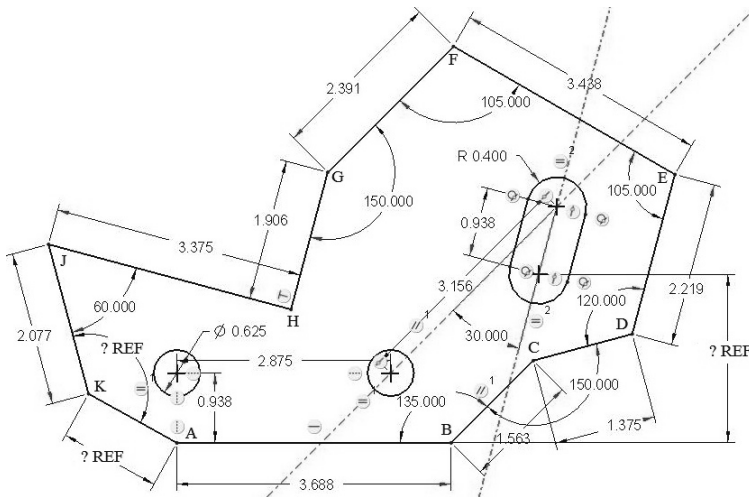

Figure 3-70 Problem 1—Shear Plate
- 3.1 Draw "shear_plate" (Figure 3-70). **Design Intent**—The left hole must be directly above the lower left corner at point A at a height of 15/16 inches. The right hole must be 2.875 inches from the left hole and at the same height. Draw a centerline through the right hole and parallel to line BC. The slot must be oriented 30 degrees from the indicated centerline. What is the length of line KA, height of arc center L, and the angle at K? (>File>Options>Sketcher, change to 3-decimal places before sketching.) Hint: Start at A and draw the general shape until you get to K. Do not draw line KA yet. Dimension the shape according to the design intent, then add line KA, and finally add the three reference dimensions.